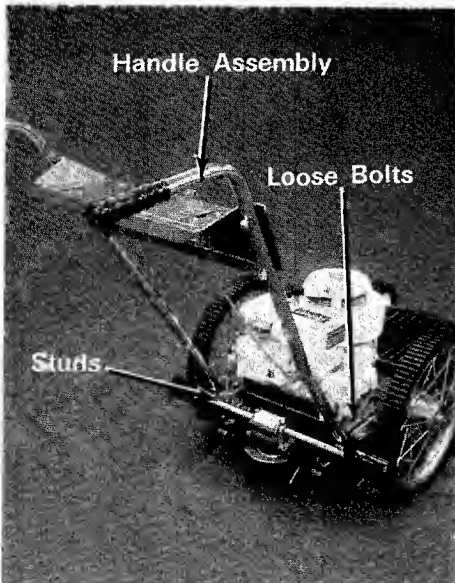

Figure 1
- 1 Place the left side of the handle assembly over the two studs extending out from the left side of the frame. (See figure 1.)